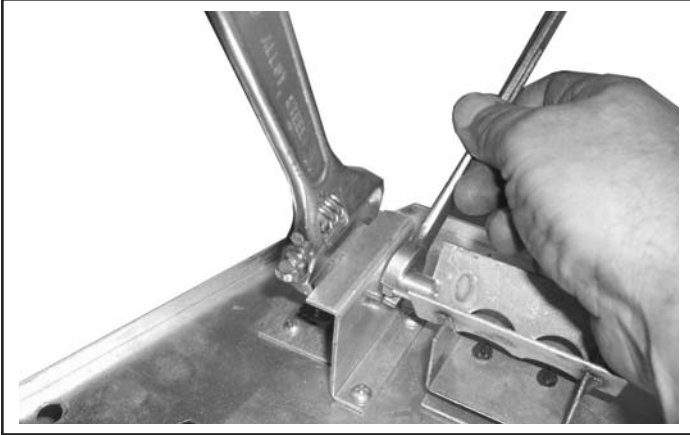

Figure 83 - Use two wrenches to avoid damage to manifold.
- Remove injector orifice from left burner bracket with a 1/2" wrench. Use a back up wrench to prevent damage to the manifold. (Figure 83)